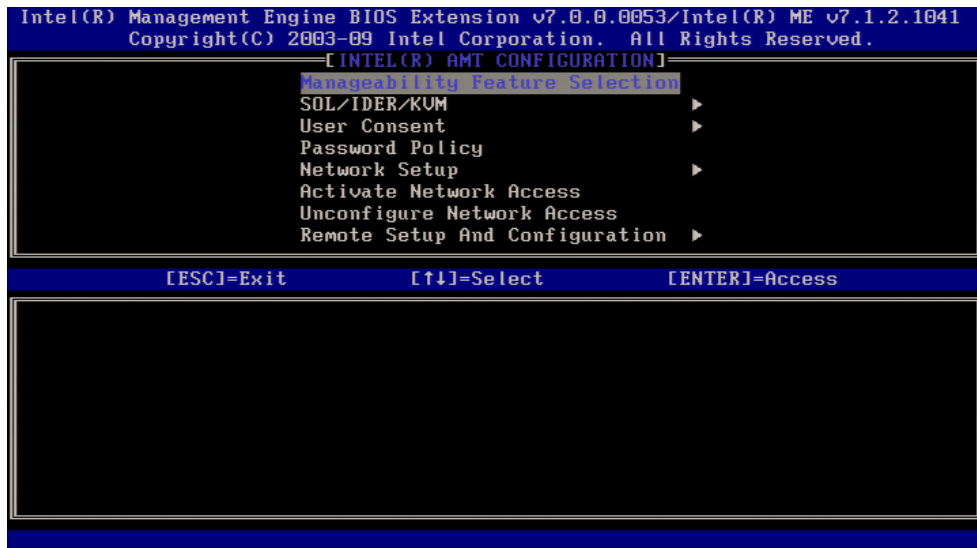

Figure 25. Intel AMT Configuration screen.
8. Go into Intel AMT Configuration (Figure 25).